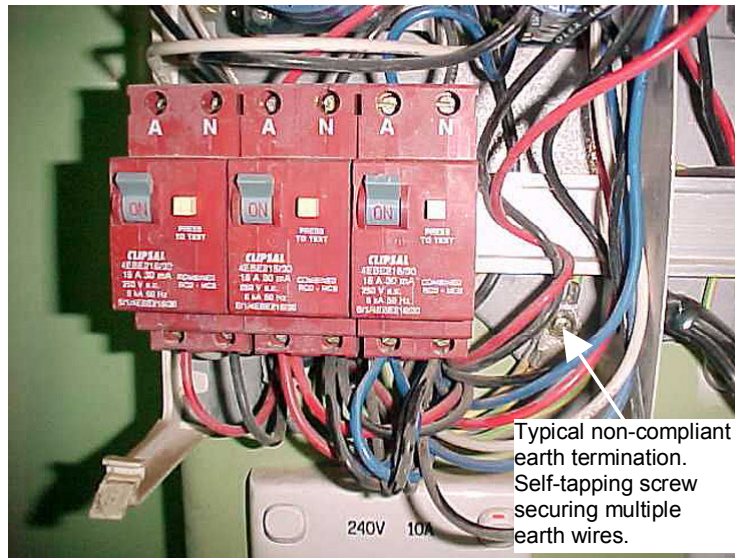

Figure 1 – Earth Terminal Screw
2. Various types of main earth terminal screws are fitted to these vehicles and, generally, they are self-tapping type of screws screwed into the rear metal cover plate of the switchboard (see Figure 1). This self-tapping screw is also used as the common earth terminal for a number earth wires entering the switchboard.